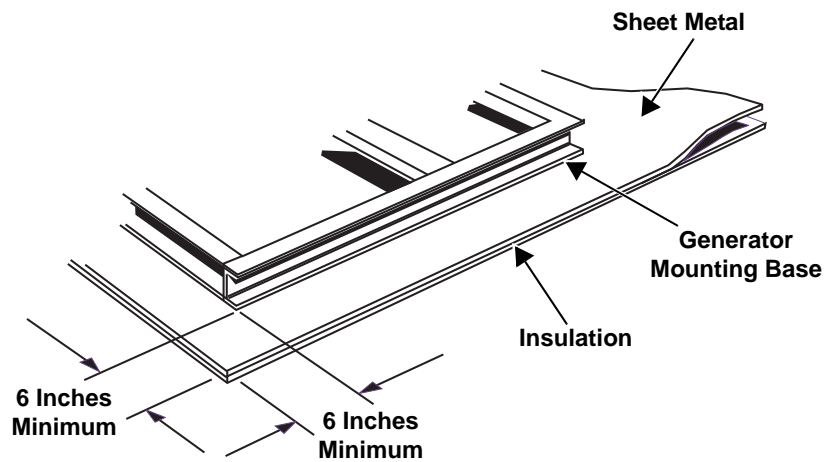

Figure 3-2. Combustible Floor and Roof Protection.
- Both the layer of insulation and the sheet metal must extend beyond the engine-generator base, to a distance of at least six (6) inches (15.25cm) on all sides. See Figure 3-2.